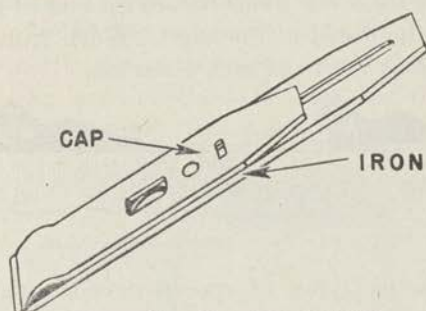

FIGURE 39.—Plane iron and cap.
(3) Almost every plane iron has a cutter cap, or chip breaker, fastened to it by a screw, curved at the end near the cutting edge of the iron (fig. 39). The cap is ordinarily adjusted about ⅛ inch back of the cutting edge for a jack plane and about ⅓₂ inch for a